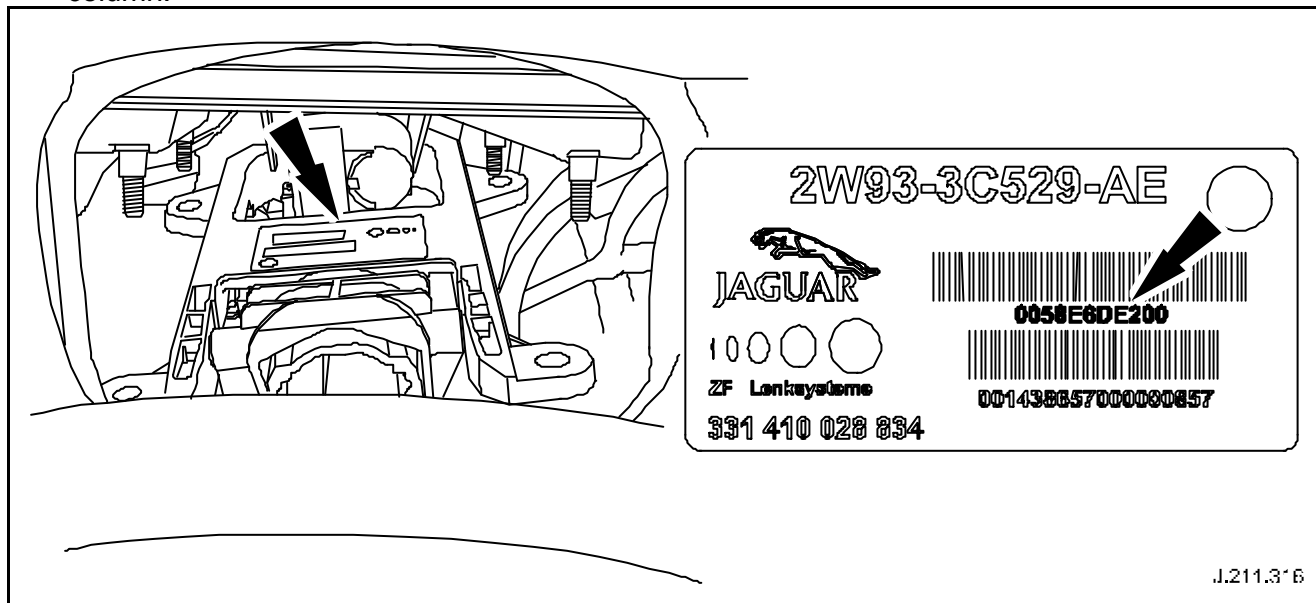

Fig. 4
- 8 Read and make note of eleven digit alpha-numeric code from bar code label. (See Fig. 4)